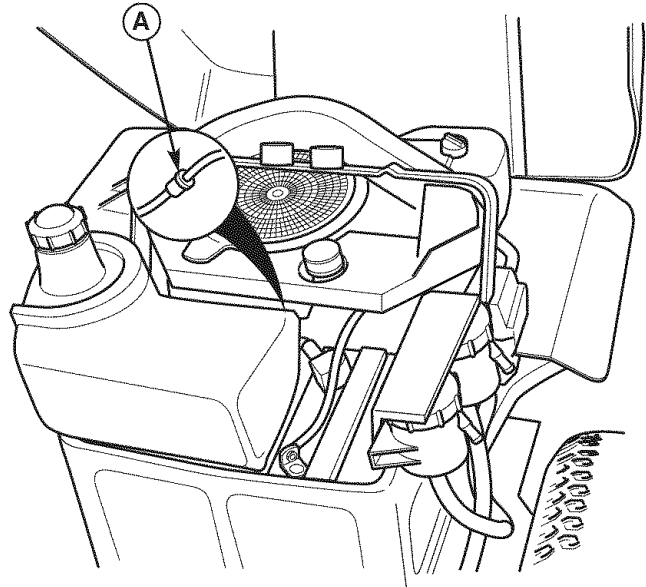

Figure 39. Engine Compartment
2. Place a suitable container below the fuel filter (A, Figure 39') to catch spilled fuel, and place a container suitable to hold the contents of the fuel tank next to the unit.
3. Using locking pliers, clamp the fuel line between the fuel filter (A) and fuel tank.